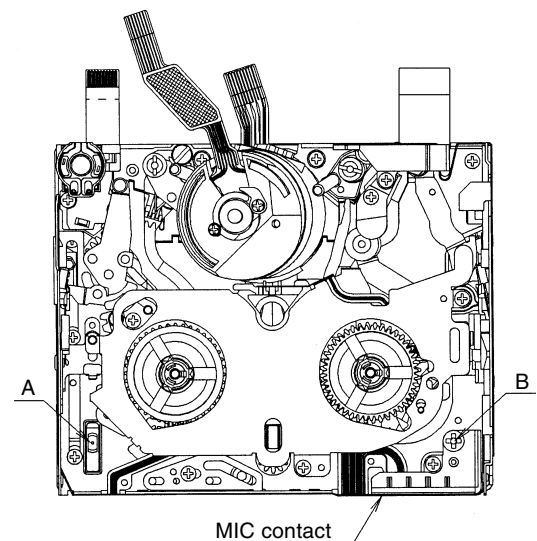

Fig.2 Checking of reel table
- (1) Remove the cassette controller. (Refer to 8-2.)
- (2) Apply 3 to 4V DC to the loading motor while referring to 8-1 and select the PB mode.
- (3) Fit the holes of the master plane to the two guides (portions A and B) shown in the Fig.2, taking great care not to allow master plane to strike the running parts such as the drum and guide roller or the MIC contact.